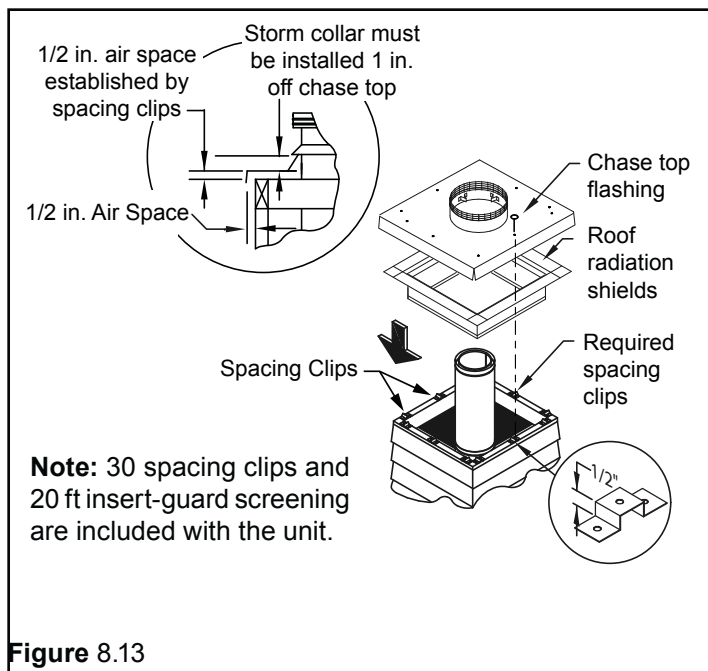

Figure 8.13
- If the Chase Top Flashing (40 in. x 40 in.) does not ensure the minimum 1/2 in. spacing and perimeter ventilation requirements as shown in Figure 8.13., use a Chase Top Collar and field-construct the flashing as needed for the chase dimensions. Skip to **Field-Constructed Chase Top Flashing**.
- Install the Chase Top Flashing at the top of the chase with a 1/2 in. minimum air clearance off the top of the chase construction (Figure 8.13).
- Spacing clips can be field-fabricated as needed out of 24 GA sheet metal or other suitable non-combustible material (refer to Figure 8.13)
- Spacing clips can be field-fabricated as needed out of 24 GA sheet metal or other suitable non-combustible material (refer to Figure 8.13), or purchased from Hearth & Home Technologies Inc.